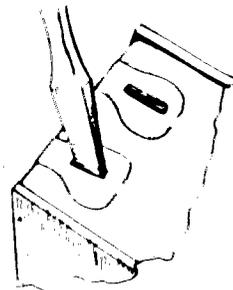

FIGURE 10
a. Place screwdriver in slot (Figure 10)